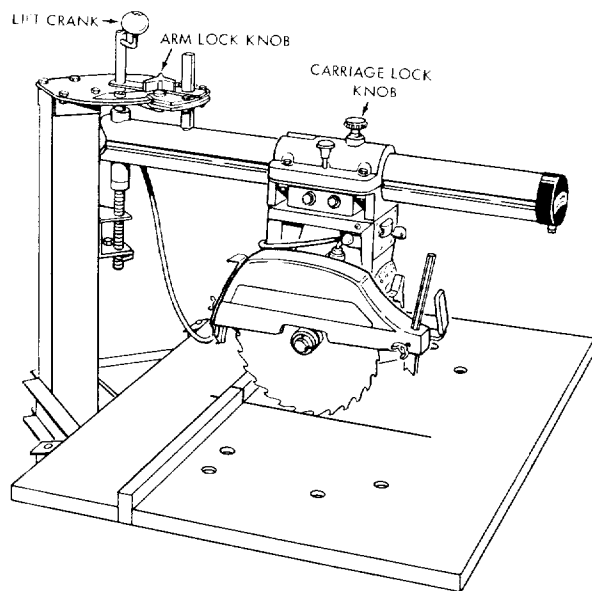

Figure 54
- Index the radial arm at 0° miter position and tighten the arm lock knob. (See figure 54.) Lower the blade just short of touching the table surface.
- Grasp the handle (figure 54) and loosen the carriage lock knob.